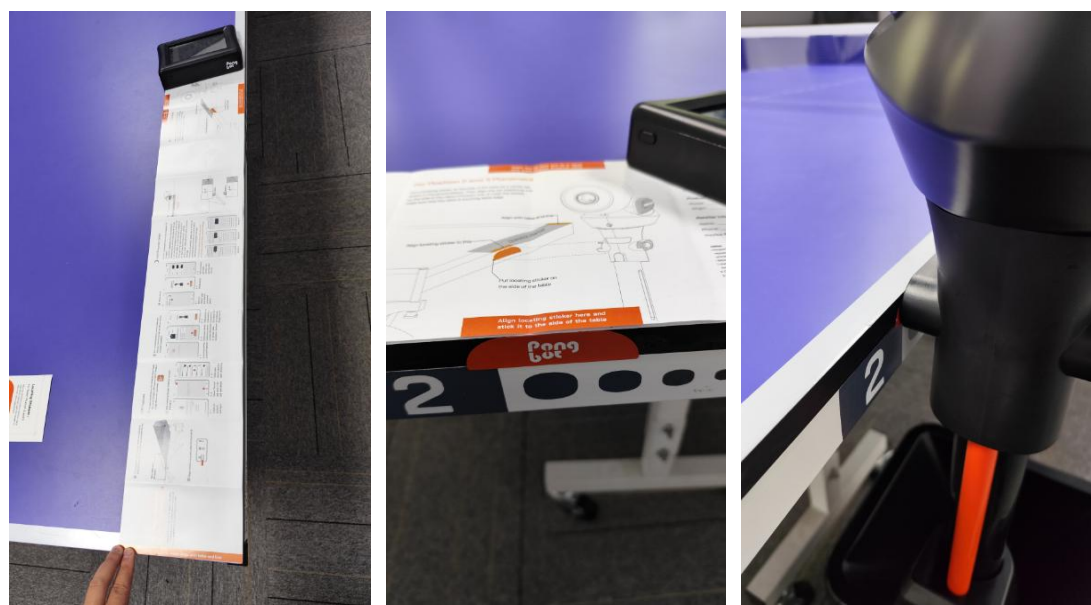

Figure 2-5
2.1.6. If you need to install the robot at position 2 or 3, first unfold the user manual, lay it flat on the table, and follow the instructions to place the labels on the corresponding positions of the table. Remove the robot's ball recovery net, move the robot to position 2 or 3, and ensure the ball discharge tube is close to the side of the table. (Figure 2-5)